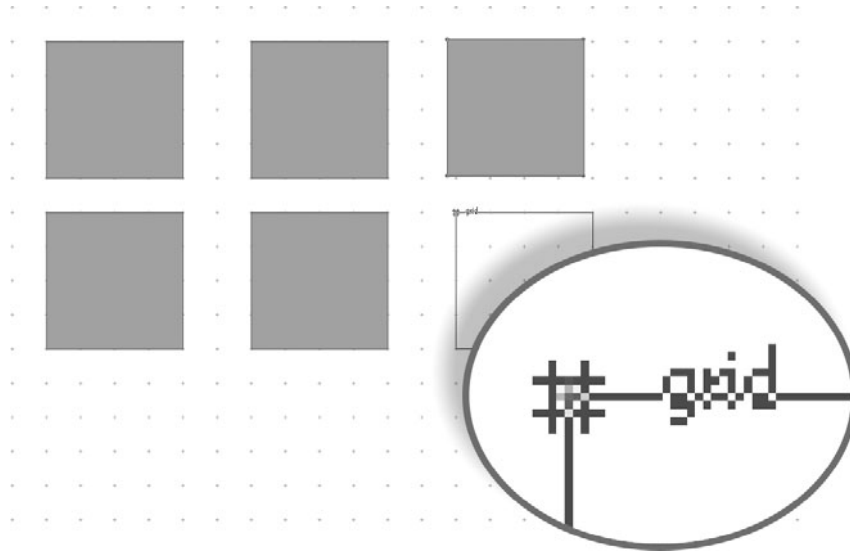

FIGURE 7-7 Duplicating and aligning objects makes accurate composition of a design a breeze.
6. Repeat steps 4 and 5 to build the array of evenly spaced squares, as shown in Figure 7-7. Notice that when an object's edge is on, or even close to, the grid when Snap To is turned on, you'll see a tiny blue label indicating the snap-to point. You're not limited to shape edges as the origin of a snapping point; setting behavior for snapping origins is covered later in this chapter.